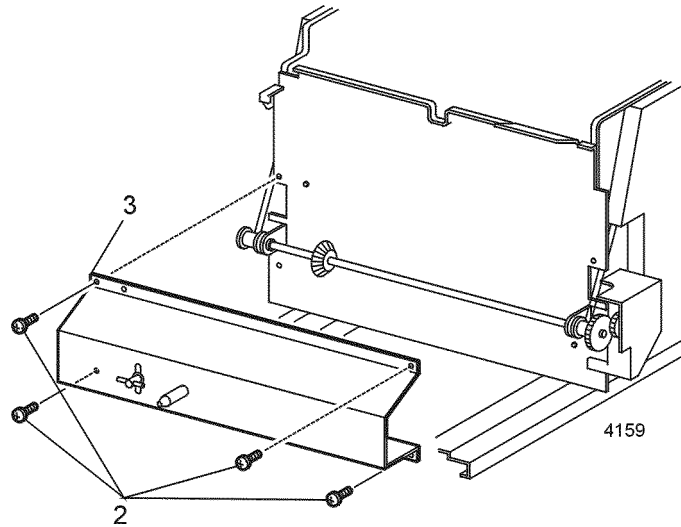

Figure 1 Shaft Cover Assembly
3. Remove the cover (Figure 1).